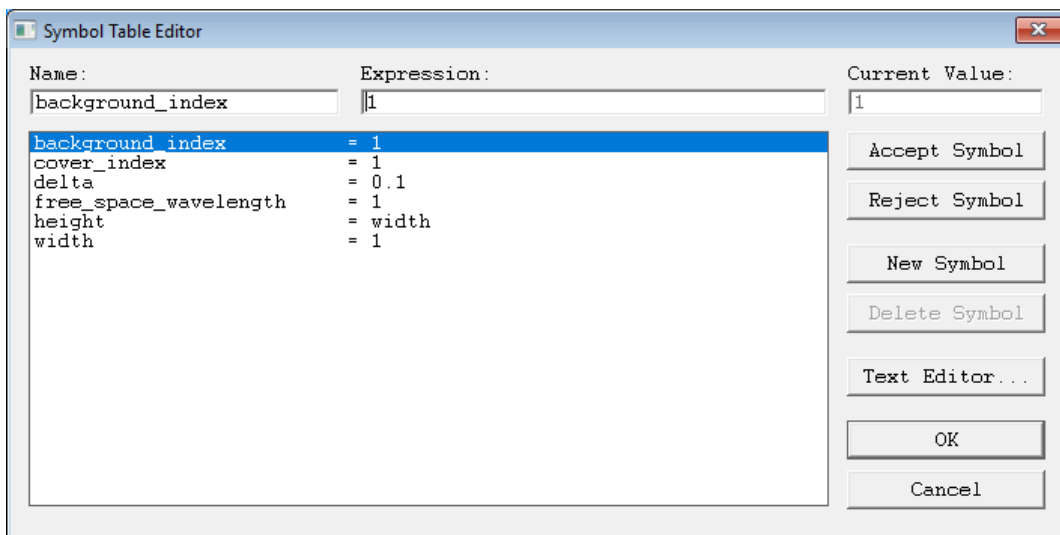

Figure 3-4: The Symbol Table Editor dialog which allows access to both built-in and user-defined symbols.
Most of the variables shown in Fig. 3-4 correspond to the settings shown in the startup dialog described in Section 3.B. Altering any of the values will immediately affect the corresponding parameter in the design file and is equivalent to changing the parameter in the Global Settings dialog.
- Variables can be defined as an analytic expression involving any other variable in the symbol table. See `k0` shown in Fig. 3-4. Appendix C documents the syntax and functions that can be used.